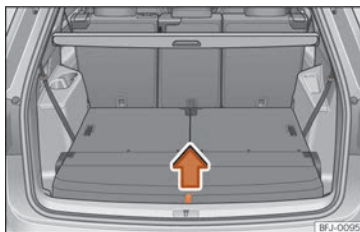

Fig. 122 In the luggage compartment: lift the luggage compartment floor.
- Grab the boot floor by the cord »» Fig. 122 and lift it in the direction of the arrow and remove it.